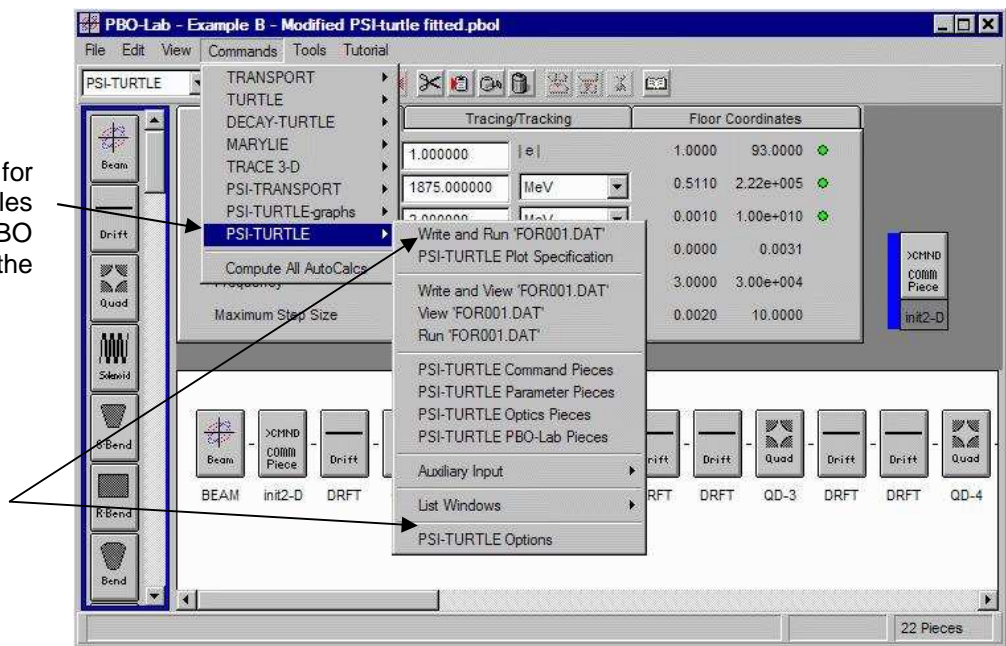

Figure 3. PBO Lab Document Window showing the PSI-TURTLE Module Commands submenu.
A brief summary of the PSI-TURTLE Module command structure is presented here. Individual commands are described in more detail in later Sections of this Supplement. Figure 3 illustrates a PBO Lab Document window with the PSI-TURTLE Commands submenu selected in the PBO Lab Command Menu.
The PBO Lab Document window illustrated in Figure 3 also shows an entry on the Commands menu for another component of the PSI-TURTLE Module:
The Command Menu in the PBO Lab Document Window contains submenus for any installed Simulations and Application Modules. The Command Menu shown in Figure 3 includes six other installed PBO Lab Application Modules: TRANSPORT, TURTLE, DECAY-TURTLE, MARYLIE, TRACE 3-D, and PSI-TRANSPORT.
A summary of the PSI-TURTLE Module command structure was given in Section 1 and illustrated in Figure 3. This Section describes the first five (5) commands in the PSI-TURTLE Module submenu shown in the side-bar. Sections 3 and 4 describe the remaining Commands.